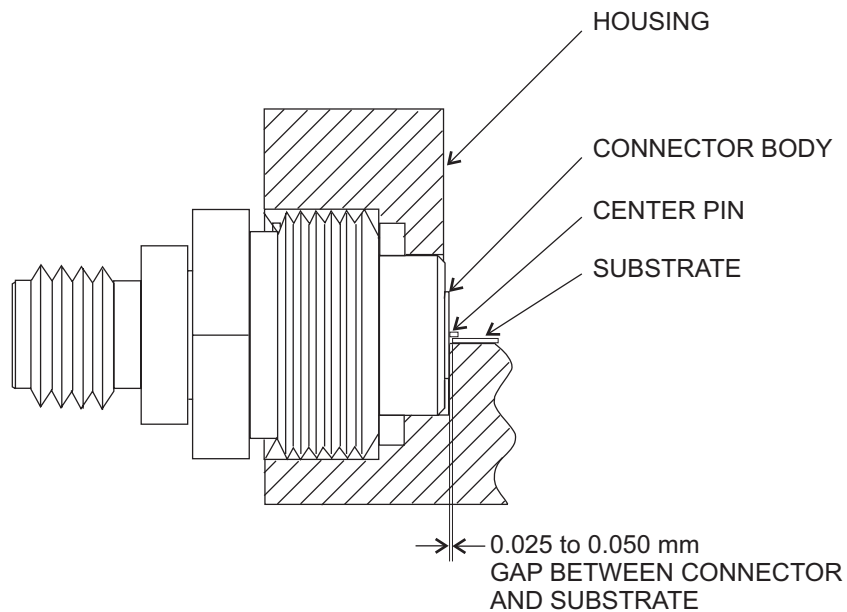

Figure 3. Connection to Substrate
- Place the edge of the substrate 0.025 mm from the end of the floor of the housing (see Figure 3).